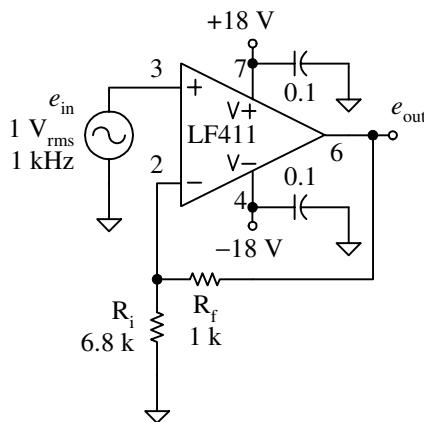

Figure 1-43 Simple noninverting amplifier
1. Build the amplifier as shown in Figure 1-43.